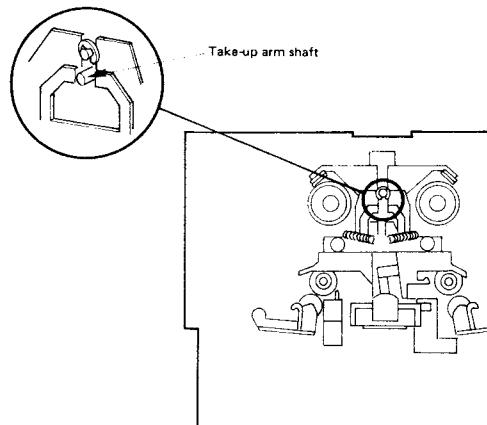

Fig. 29
- 3) Take out take-up arm operating shaft (Shown in Fig. 27) from the hole on the playback plate as shown in Fig. 29, and fix the gear assembly using screws.